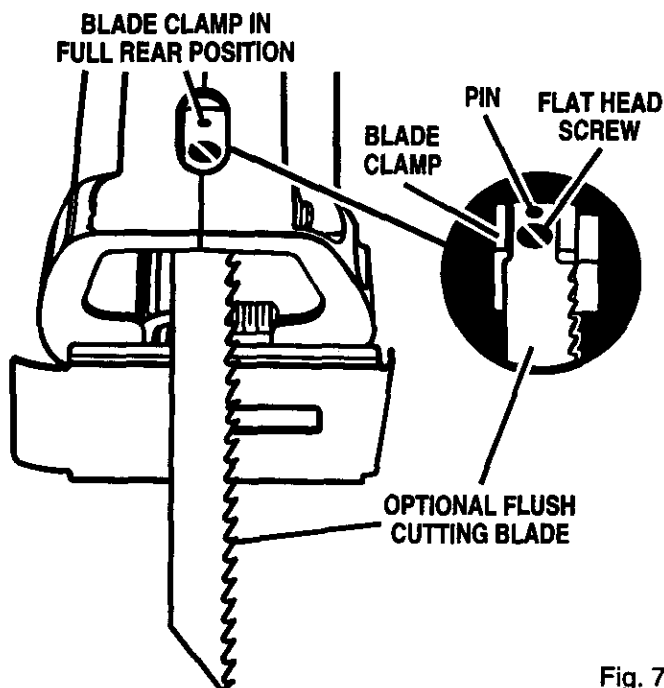

Fig. 7
- Depress and release the switch trigger of your saw in quick, short starts and stops until blade clamp is in its full rear position. See Figure 7.
- Insert flush cutting blade on top of blade clamp as shown in figure 7.
- Using the flat head screw provided, secure blade to saw bar assembly. See Figure 7.